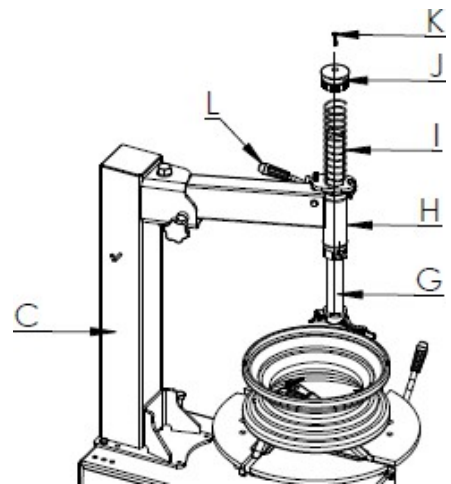

Fig. 6
- Slide the (de)mounting arm (G, fig.6) from below through the swing arm (H, fig.6) and secure it with arresting lever (L, fig.6).
- Make sure you mount the (de)mounting arm (G, fig.6) in the right direction, for reference you can clamp a rim on the table to see how the head should be.
- Now secure the (de)mounting arm (G, fig.6) in the upper position using the arresting lever (L, fig.6) and then insert the spring (I, fig.6) and secure it using the cap (J, fig.6) and the M10x30mm socket screw (K, fig.6).
CAUTION! Do not forget to secure the (de)mounting arm (G, fig.6) with the arresting lever (L, fig.6), as it automatically drops down, which can result in serious injuries!